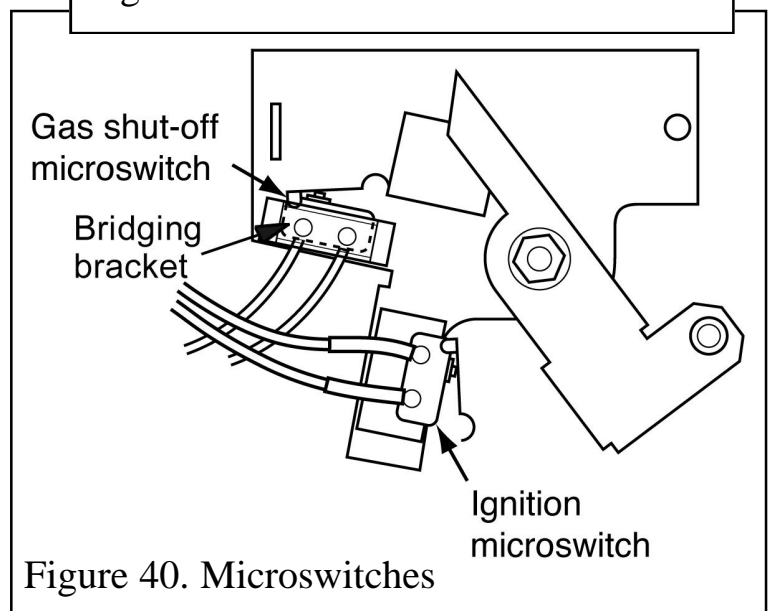

Figure 40. Microswitches
3. Disconnect the leads from the ignition microswitch (The lower of the two microswitches (See figure 40).
4. Detach the bridging bracket, microswitch assembly by removing two screws (See figure 40).